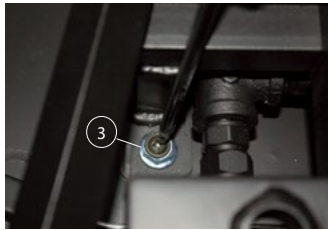
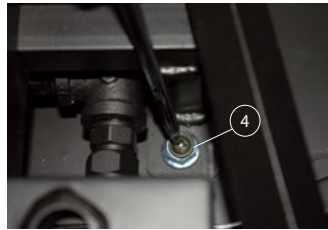

Figure 20a. (LH Base mounting machine screw).
Figure 20b. (RH Base mounting machine screw).
**Step 3 & 4** Remove the two (2) (RH & LH) Base mounting machine screws, **Figure 20a & 20b. (Philips head screwdriver required).**
**Step 3 & 4. Figure 20a.** (LH Base mounting machine screw). **Figure 20b.** (RH Base mounting machine screw).